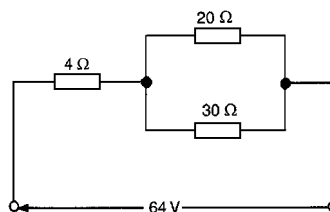

Figure 5.31
- (a) Calculate the current flowing in the $30\ \Omega$ resistor shown in Fig. 5.31 (b) What additional value of resistance would have to be placed in parallel with the $20\ \Omega$ and $30\ \Omega$ resistors to change the supply current to 8 A , the supply voltage remaining constant.